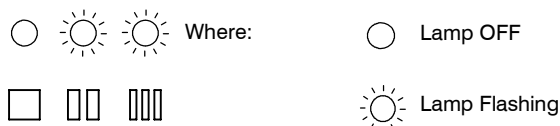

Fig. 36
- 2 Turn ON the power supply. Lamps E give the indication as in Fig. 36.